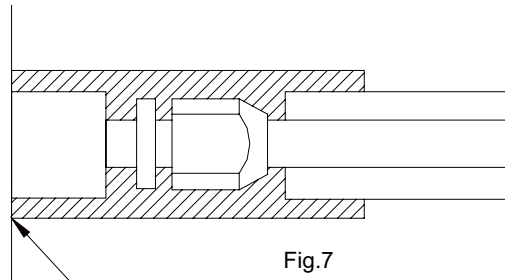

Fig.7
- Refer to Fig.7 for the moments of torque for tightening screws.